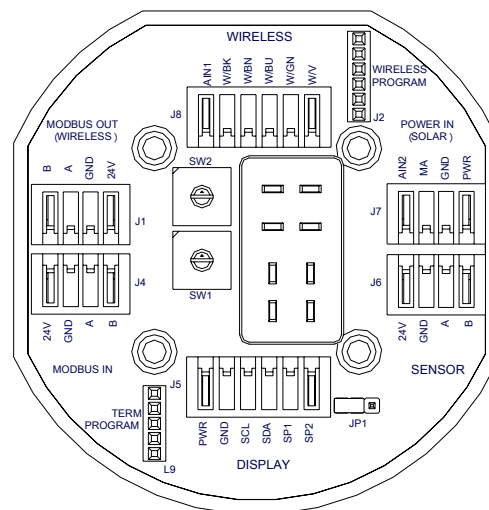
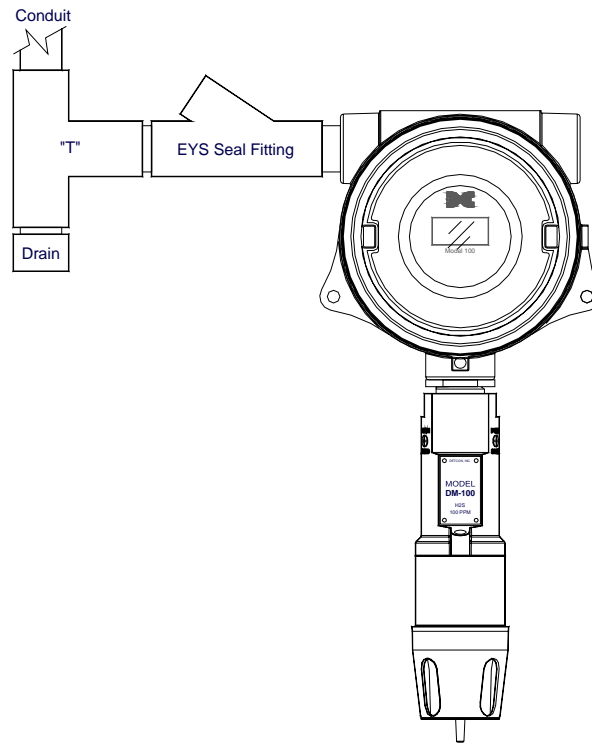

Figure 8 Model 100 Display Terminal Board
Figure 12 Typical Installation
If the unit is ordered with the optional display or a battery pack (as used in wireless configurations) the unit comes with the Model 100 Display Terminal Board mounted in the J-Box (See Figure 8).
NOTE: In all installations the gas sensor should point straight down (refer to Figure 12). Improper sensor orientation may result in false readings and permanent sensor damage.
Proper electrical installation of the gas sensor is critical for conformance to Electrical Codes and to avoid damage due to water leakage. Refer to Figure 8 and Figure 12 for proper electrical installation.
NOTE: If a conduit run exits the secondary port, repeat the installation technique shown in Figure 12.
In Figure 12, the drain allows H₂O condensation inside the conduit run to safely drain away from the sensor assembly. The electrical seal fitting is required to meet the National Electrical Code per NEC Article 500-3d (or Canadian Electrical Code Handbook Part 1 Section 18-154). Requirements for locations of electrical seals are covered under NEC Article 501-5. Electrical seals also act as a secondary seal to prevent water from entering the wiring terminal enclosure. However, they are not designed to provide an absolute watertight seal, especially when used in the vertical orientation.
3. Observing correct polarity, terminate the 3-conductor power and 4-20mA field wiring (‘+’ ‘-’ and ‘mA’) at the terminal board connector J1 (4-20mA Out) on the Standard Terminal Board shown in Figure 7, or J7 (PWR GND and MA) on the Display Terminal Board shown in Figure 8.